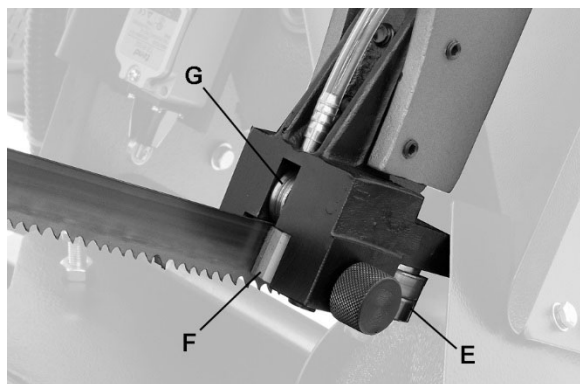

Figure 8-2: blade guides
7. Make sure teeth of new blade are pointing in proper direction of travel. Work blade all the way up into blade guide bearings (E) and guide blocks (F) with back of blade against back-up bearing (G), as shown in Figure 8-2.
6. The support bearing (see G, Figure 8-2) prevents deflection of blade under pressure from the workpiece. Set support bearing so that it nearly contacts back edge of blade but can still be turned by hand when blade is not running.